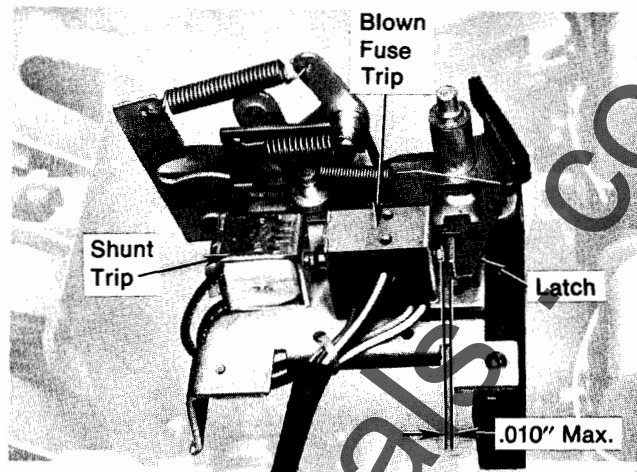
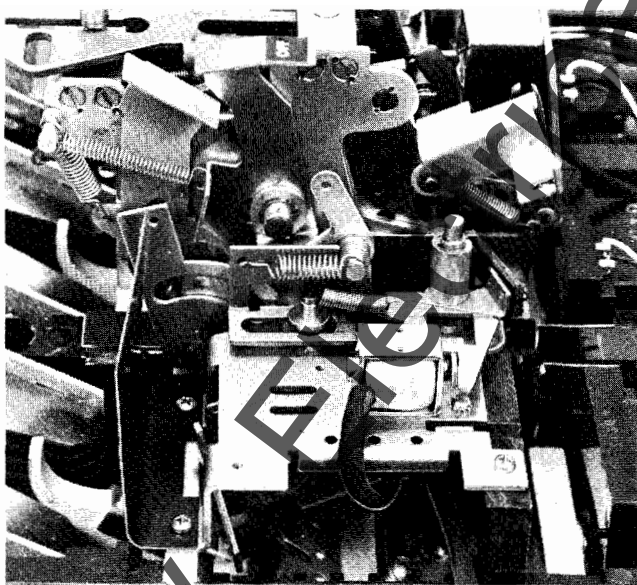

Figure 26.
Figure 25.
1. Remove three (3) mounting plate retaining screws and isolation barrier, see Fig. 25.
1. Assemble coil to mounting plate as shown in Fig. 25). If the mounting plate is also to be equipped with a blown-fuse trip device, mount the shunt trip as shown in Fig. 26.
4. Remove knockouts as required in side of base. Each knockout will accommodate up to three bundles of wires (Fig. 25). Remove all sharp edges with a file.